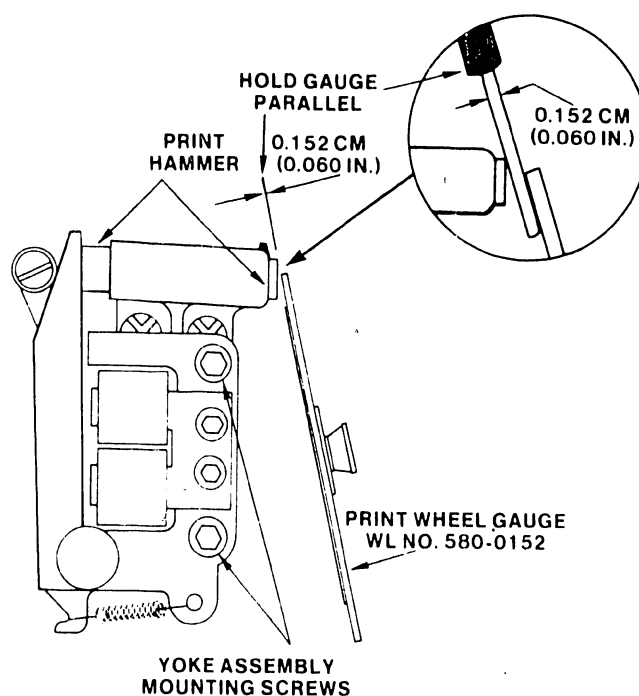

FIGURE 5-11 PRINT HAMMER TO BACK OF PRINT WHEEL PETAL
(Figure 5-11)
2. Using wire gauge (WL #726-9726) or a feeler gauge check for the 0.060" clearance as shown in Figure 5-11.
1. Loosen the two yoke assembly hex socket head mounting screws attaching yoke assembly to the disk motor casting as shown in Figure 5-11.
2. Using wire gauge (WL #726-9726) or feeler gauge adjust the yoke assembly in or out for a 0.060" clearance as shown in Figure 5-11.